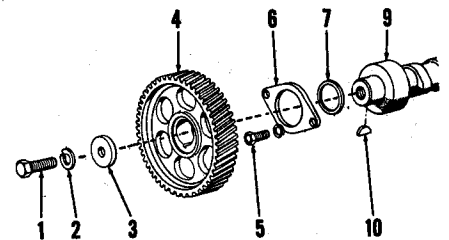

Fig. 75—View showing assembly of camshaft gear to camshaft. Camshaft end play is controlled by plate (6) which fits between shoulders on gear and shaft.
89. CAMSHAFT GEAR. To remove the camshaft gear, remove cap screw (1—Fig. 75), lockwasher (2) and washer (3) then, pull gear from shaft. Gear should be a hand push fit on shaft. With gear removed, inspect drive key (10), thrust plate (6) and spacer (7) and renew if damaged in any way.
Desired camshaft end play is 0.001-0.007 inch. If end play is excessive, renew thrust plate (6—Fig. 75) during reassembly. Remove the cap screw (1), lockwasher and flat washer and pull camshaft gear from shaft. Remove the Woodruff key (10), thrust plate and spacer (7). Withdraw camshaft from front end of engine, taking care not to strike camshaft lobes as shaft is removed.